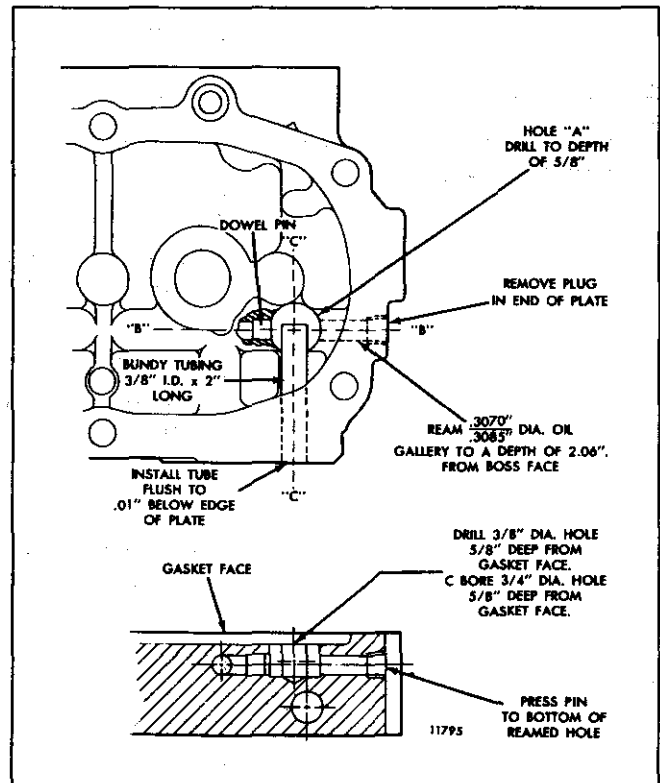

Fig. 1 - Dimensions for Reworking Front End Plate (6V-53 Engine)
1. Remove the pipe plug from the horizontal oil gallery (B-B) of the end plate. Place a reamer in the chuck of the drill press and ream a .3070" - .3085" diameter hole 2.060" deep from the boss face (Fig. 1). Remove the metal cuttings from the hole.